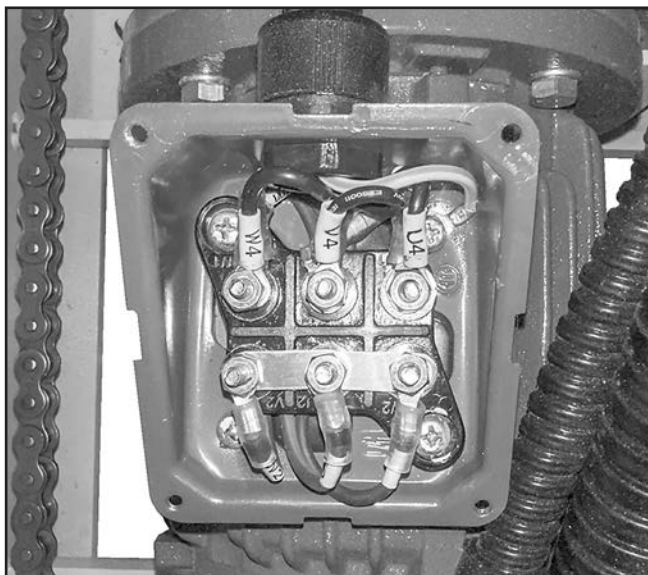

Figure 18. Table elevation motor wiring (220V).
20. Open table elevation motor junction box, as shown in **Figure 18**.